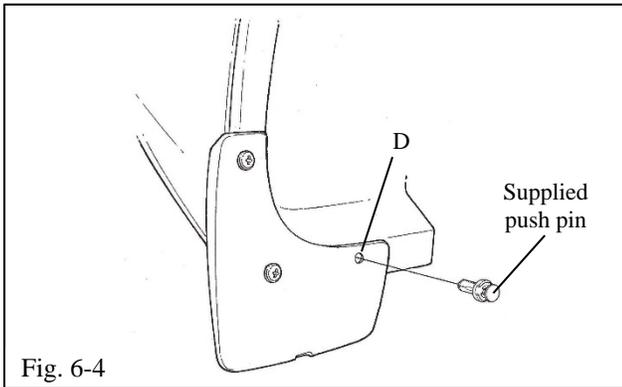

Fig. 6-4
- (d) While holding the mudguard tight to the liner, install a supplied push pin at location D (Fig. 6-4).